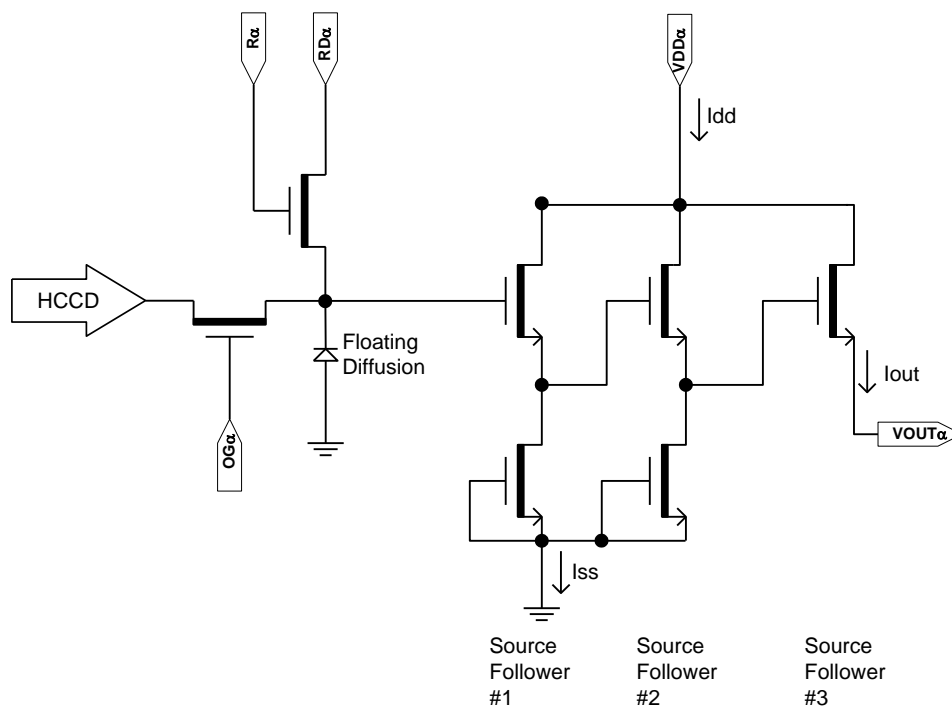

Figure 13: Output Amplifier
2. The maximum DC current is for one output.  $I_{dd} = I_{out} + I_{ss}$ . See Figure 13.